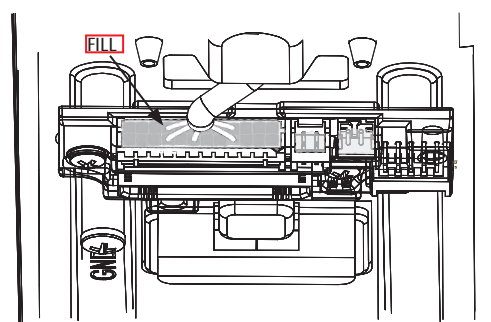

Figure 7-13B
3. Secure the Mounting Assembly while ensuring proper alignment of outside reader. Fully tighten the two (2) through-bolts on the inside of the door to secure the reader and plate to the door.
5. Ensure all openings on back of secured reader connector are covered completely with grease. (Figure 7-13B)